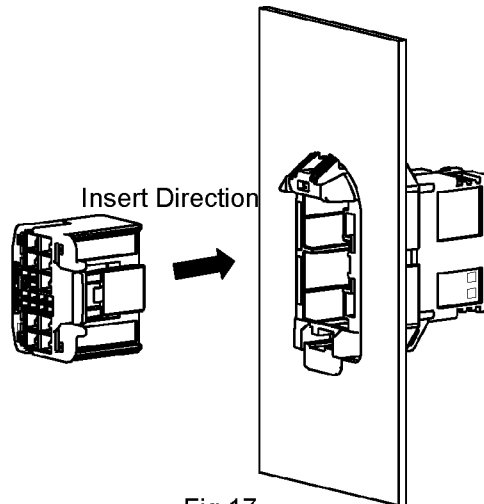

Fig.17
- (1) Check to make sure that the contact is inserted into the housing in proper condition, the wire is taped up from proper position, and the retainer is in final lock condition. If the retainer is in pre-assembled condition, it must be changed to be in final lock condition. See para.5.
- (2) And then check the contact and the housing into the male housing for defects, deformation, discoloration, damage, rust, crack, deficit, etc.
(3) Insert the proper female housing into the male housing straight with same direction as shown in Fig.17. The operation is finished when you hear the click sound and can not insert further. When you can not insert the housing, do not insert by force, and check the items in (1),(2).